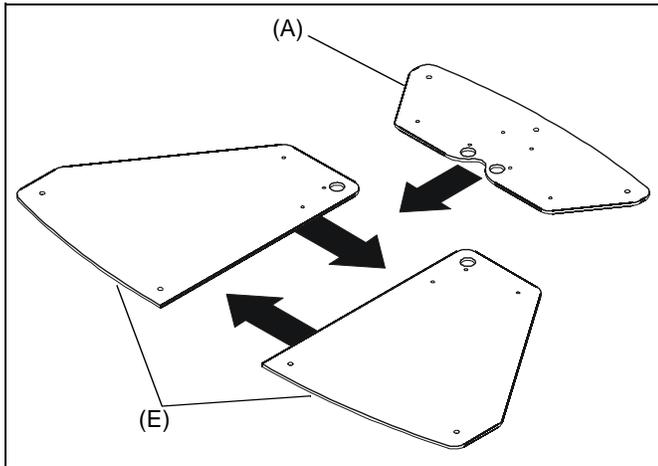

Figure 4
5. Gather stand base pieces A and E (two) and push them together until the edges meet. (See Figure 4)